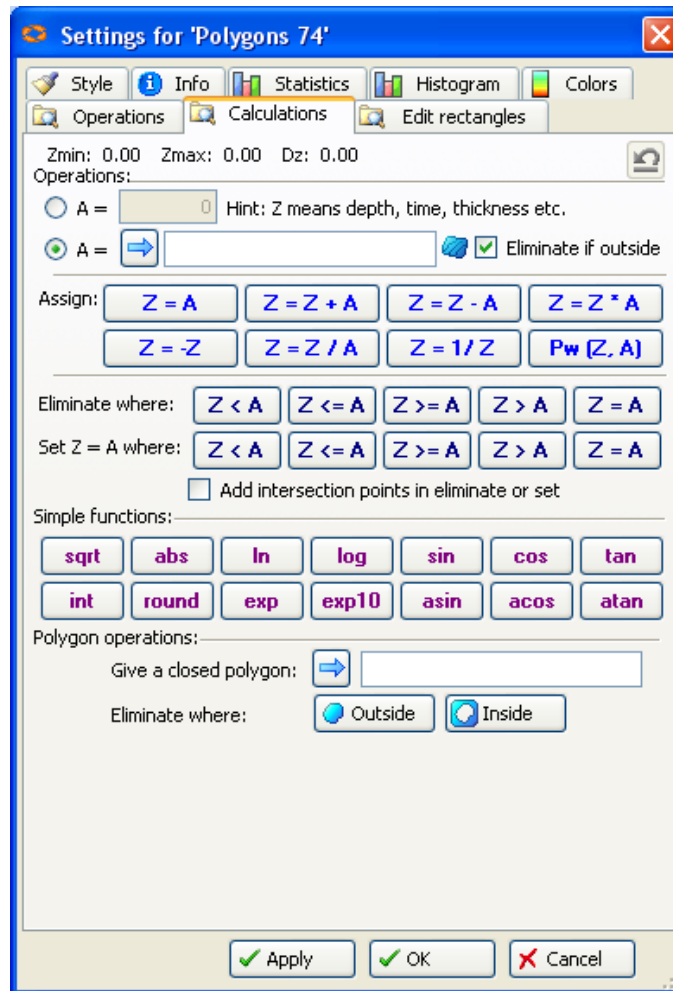

Fig. 9.28: Settings for Tarbert fault polygons dialog box
- Open the settings for the first fault polygon in **Top Tarbert polygons** folder, we will take (**Polygon 72**) as an example. and go to the **Calculations** tab as shown in Fig. 9.28.